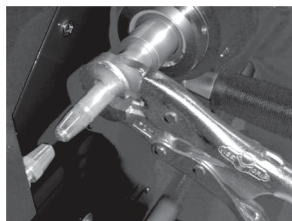

Figure 5.6a: Removing Piston Electrode
1. Grip piston electrode with a set of pliers or vise-grips (*fig. 5.6a*).
Note: Vise-Grips shown in *fig. 5.6a* are specially designed to hold round objects without damaging or scarring them. You can purchase a set online at: www.chiefautomotive.com